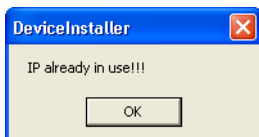

Figure 22: IP Address Already in Use Error
5. Click the  button. If the entered IP Address is in use by another device, an error window appears (see Figure 22). Click the  button to clear the window, verify the IP Address is correct and there is no conflict with any existing devices/IP Addresses on the network, and start again from Step 2 on page 15.